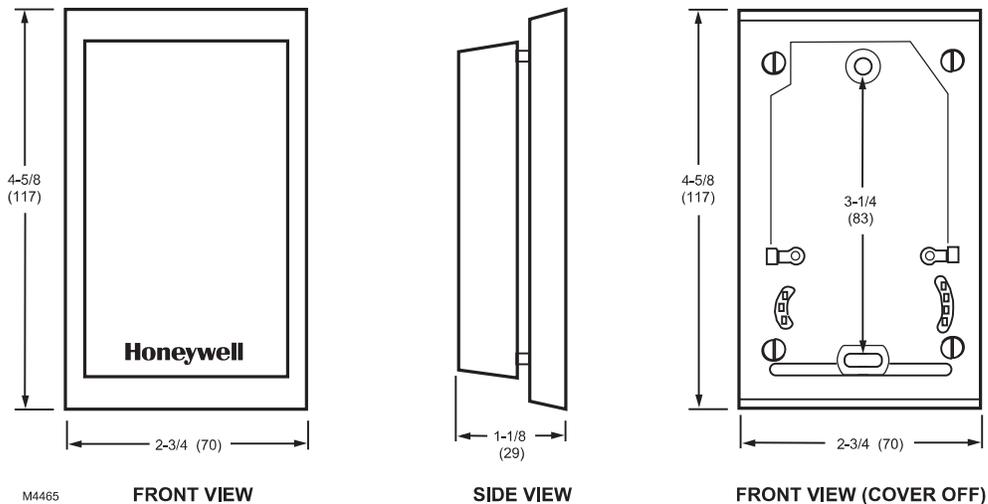

Fig. 4. C7189U Remote Indoor Sensor dimensions in in. (mm).
- C7189U Remote Indoor Sensor: see Fig. 4.